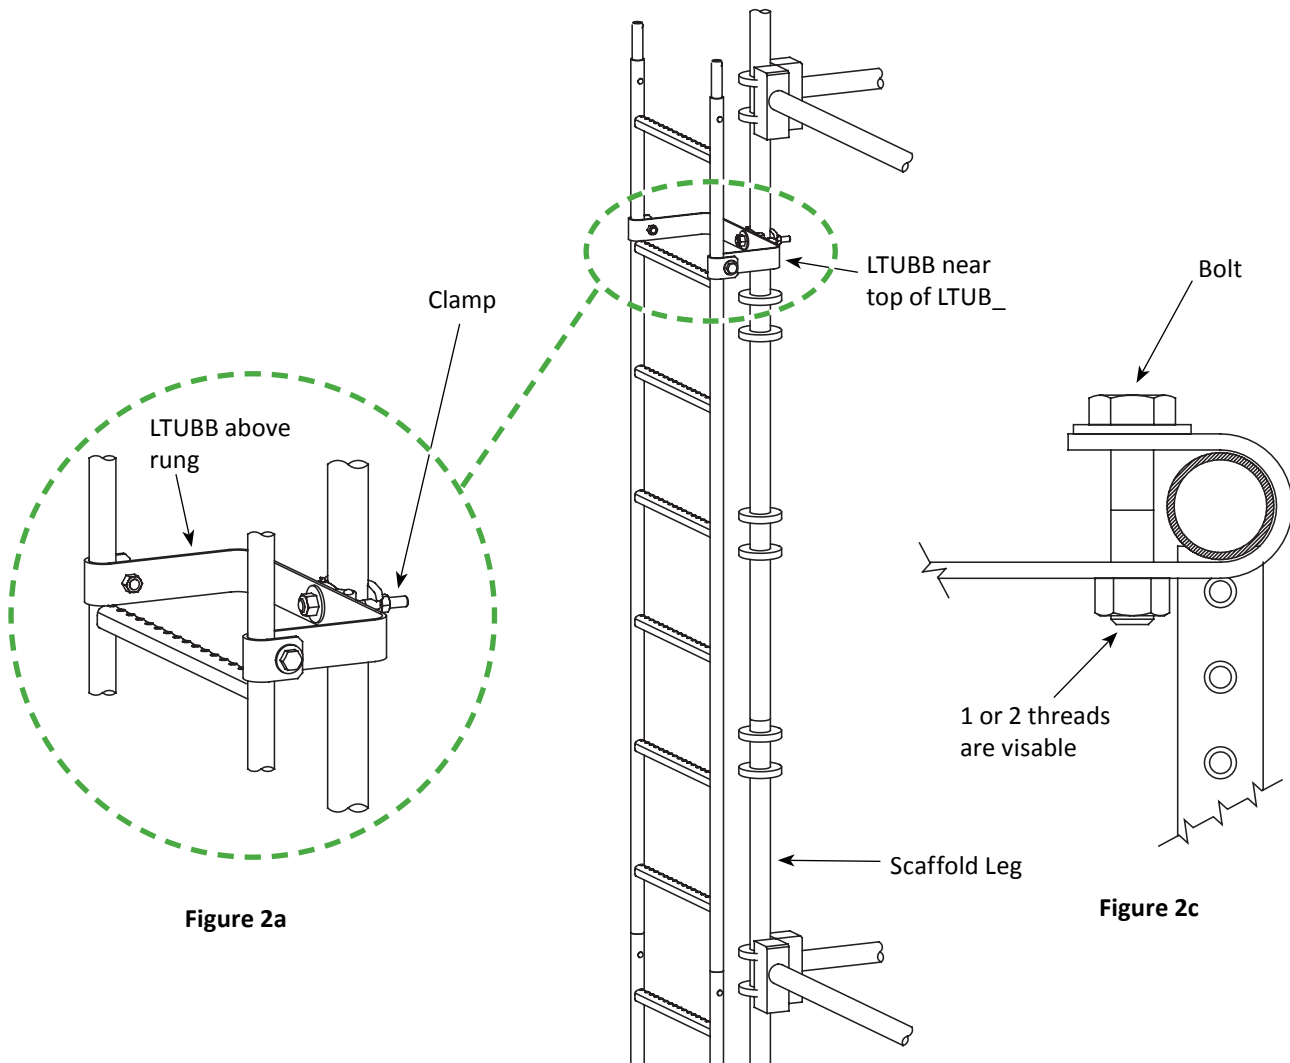

Figure 2a
- Pre-install one bracket on the LTUB_ above an upper rung and snug against the top of that rung (See figures 2a and 2b).